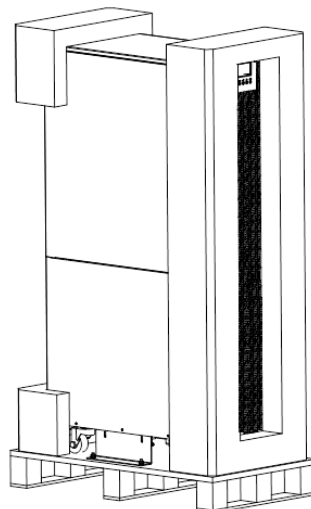

Fig.2-6 Disassemble the case
3. Unpack the package (see Fig.2-6).